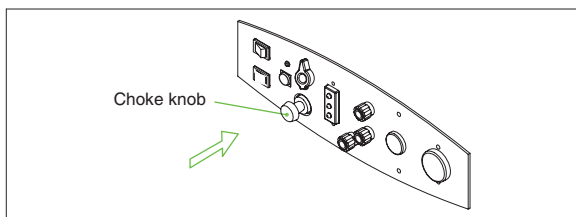

Fig.11
4.5 Push the choke knob back as the engine warms up, see Fig.11.